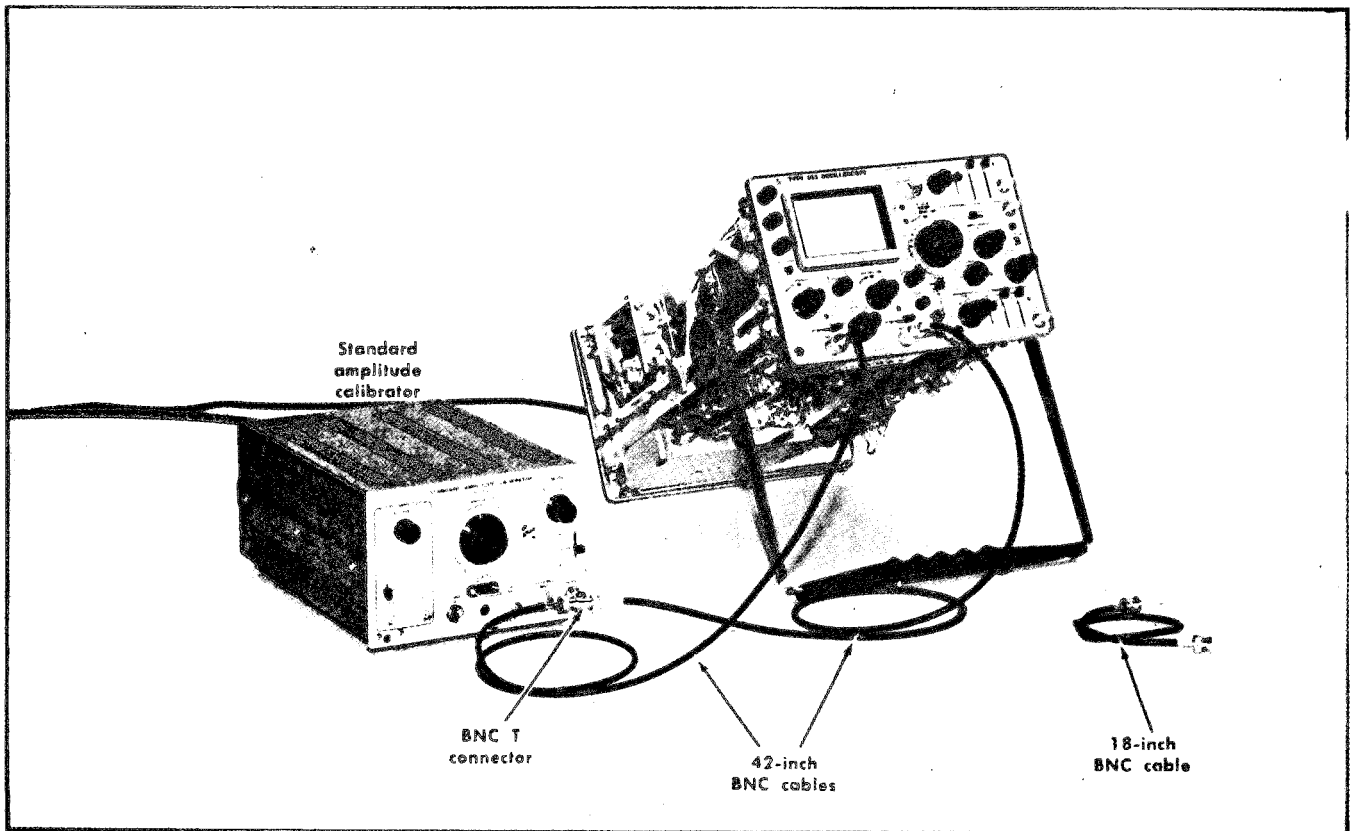

Fig. 6-16. Initial test equipment setup for steps 13 through 21.
13. Adjust Channel 1 and 2 Gain ❶
- a. Test equipment setup is shown in Fig. 6-16.